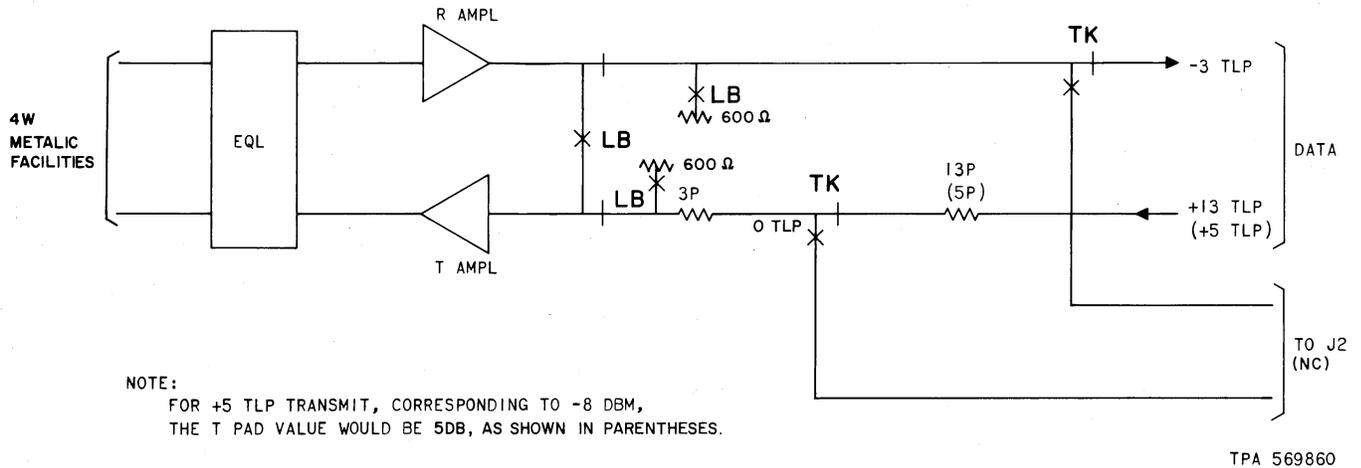

Fig. 15—Circuit Design for Data Only, 4-Wire Modem
4.05 Figures 15, 16, and 17 show three typical transmission arrangements. An additional 1.5-dB loss in both the transmit and receive directions results when the hazardous voltage protection network is provided in DAS 828A, series 4 and higher.